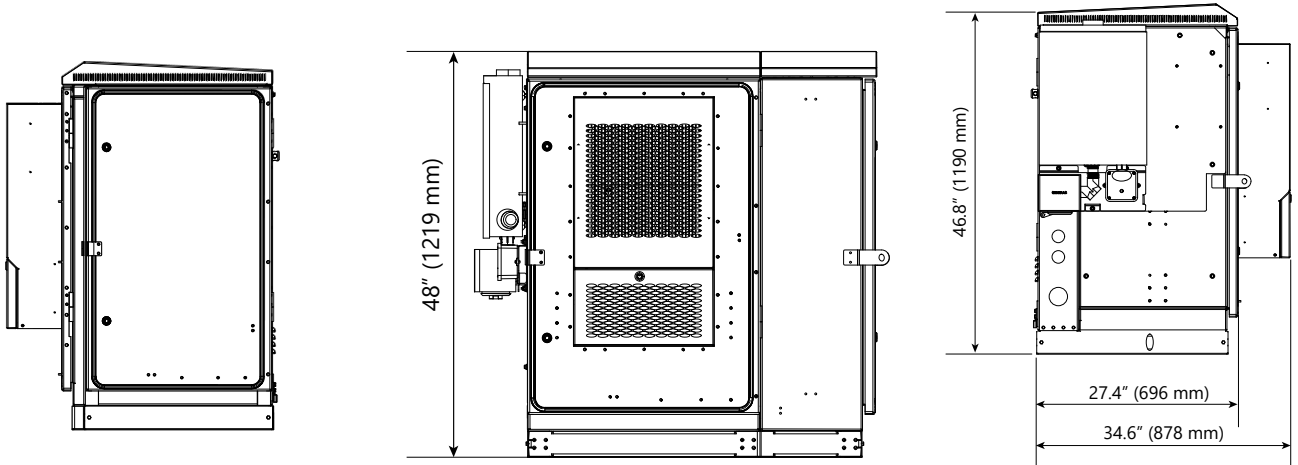

Figure 2. Left, Rear, and Right Views – MSO AIO Cabinet Example
- Rear access panel with open/close turn-latches and padlocks and environmental vents - Figure 2
- Side wall, rear, and floor knockouts for cable ingress/egress - Figure 2